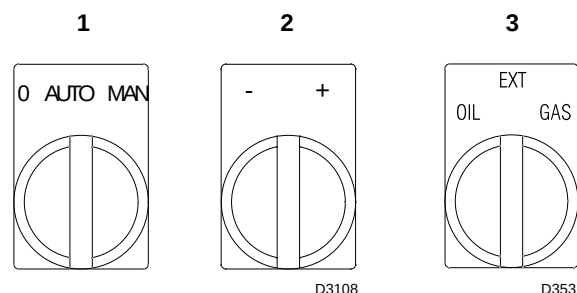

Fig. 36
Close load controls and set switch 1)(Fig. 36) to "MAN".
- 2 using selector 3)(Fig. 36);
By setting selector 3)(Fig. 36) to EXT, you activate the remote fuel selection facility.